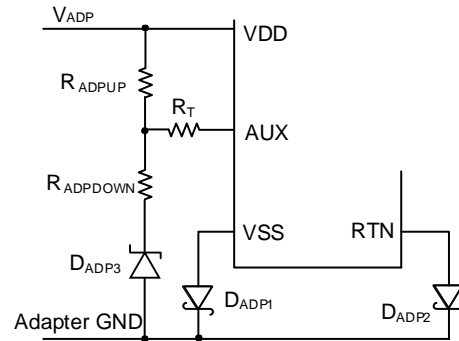

Figure 9: Wall Adapter Detection Circuit
When an auxiliary power source (e.g. a wall power adapter) powers the device, the resistor dividers (R_{ADPUP} and $R_{ADPDOWN}$) and diode (D_{ADP3}) should be selected to satisfy Equation (1) on page 20 for optimal wall power adapter detection (see Figure 9).